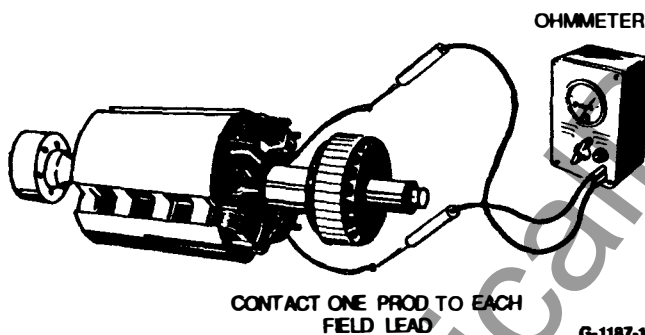

FIGURE 5-15. TESTING GENERATOR ROTOR FOR OPEN CIRCUIT
1. Disconnect and test between rotor leads, Figure 5-15.